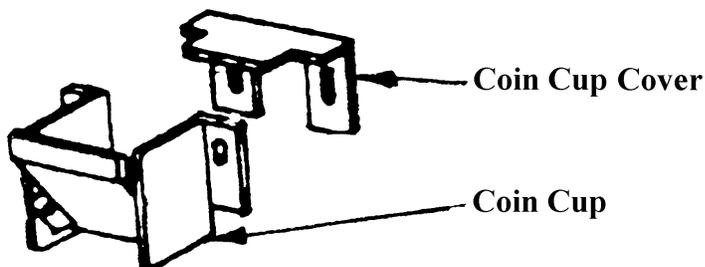

Figure 3
4. Snap the assembly in position as shown in figure 3.
3. Remove the coin cup and coin cup cover. (See figure 3.)